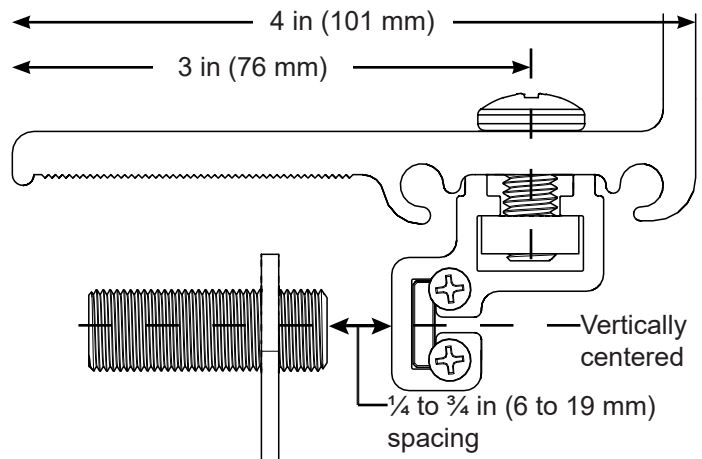

Figure 7. Align Dual Limit Sensor and Limit Flag
11. Make sure the dual limit sensor is vertically centered on the limit flag face (Figure 7).
12. Set dual limit sensor spacing: loosen the two nuts ($1\frac{1}{16}$ in) on the dual limit sensor, adjust the spacing between the dual limit sensor and stop limit flag face to $\frac{1}{4}$ to $\frac{3}{4}$ in (6 to 19 mm), and tighten the nuts to hold this spacing (Figure 7).